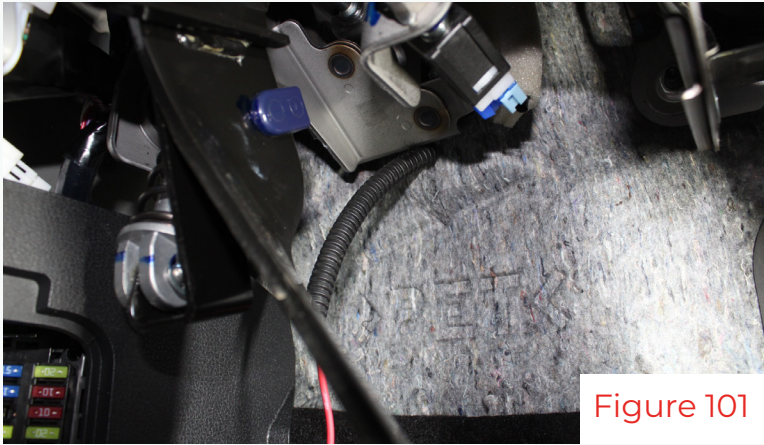

Figure 101
42. Use the remaining wire loom from the previous step and put it on the red wire under the dash near the clutch pedal (if equipped)(fig 101).